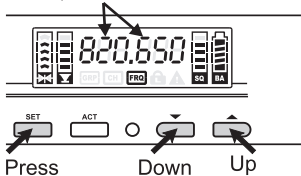

Fig. 14
## (D) FRQ: FREQUENCY Setting. Fig. 14